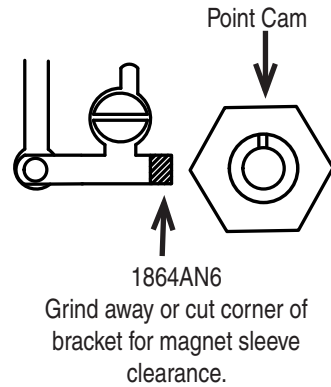

Figure 1
- Note:** Part number 1864AN6 modification required. (See Figure 1).